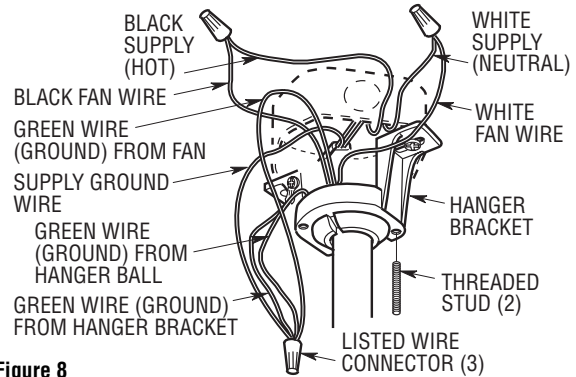

Figure 8
- 11. Connect the green grounding wire from the hanger ball, the green grounding wire from the hanger bracket, and the green grounding wire from the fan to the grounding conductor of the supply (this may be a bare wire or wire with green colored insulation). Securely connect wires with wire connectors (supplied) (Figure 8).
- 12. Securely connect the fan motor white wire to the supply white (neutral) wire using wire connector supplied (Figure 8). Securely connect the fan motor black wire to the supply black (hot) wire using wire connector supplied (Figure 8). After connections have been made, turn leads upward and carefully push the leads into the outlet box, with the wires spread apart and the white and green leads on one side of the outlet box and the black leads on the other side of the outlet box.
- 13. Screw the two 3/4" threaded studs (supplied) into the tapped holes in the hanger bracket (Figure 8).